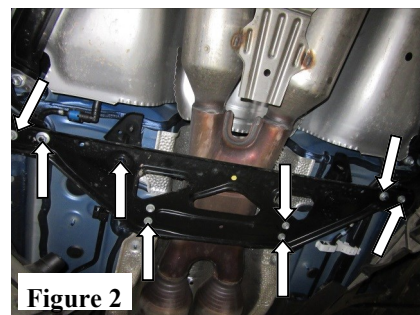

Figure 2
4. Unbolt and remove the center support bracket. NOTE: Adjacent plastic shields must be unbolted and pulled down to uncover the center support bolts. Keep hardware for re-installation of your new exhaust system. (See Fig. 2)